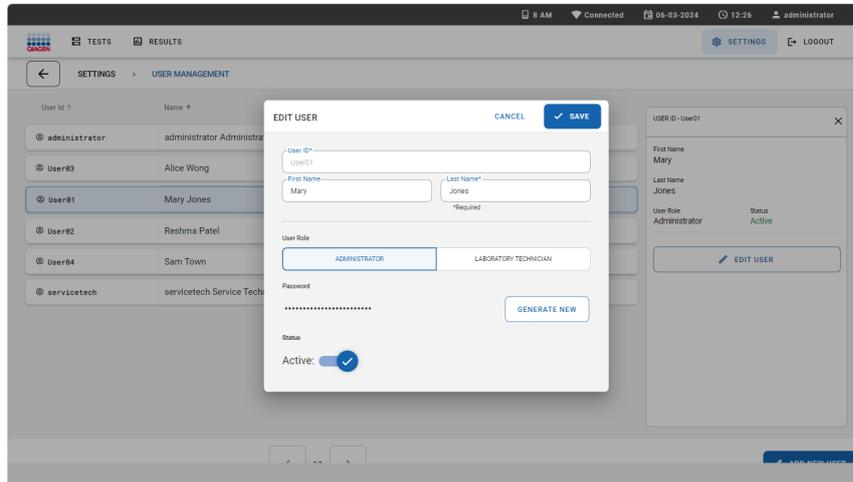

Figure 71. Edit user dialog.
1. Select the user to manage from the list of users (Figure 71).